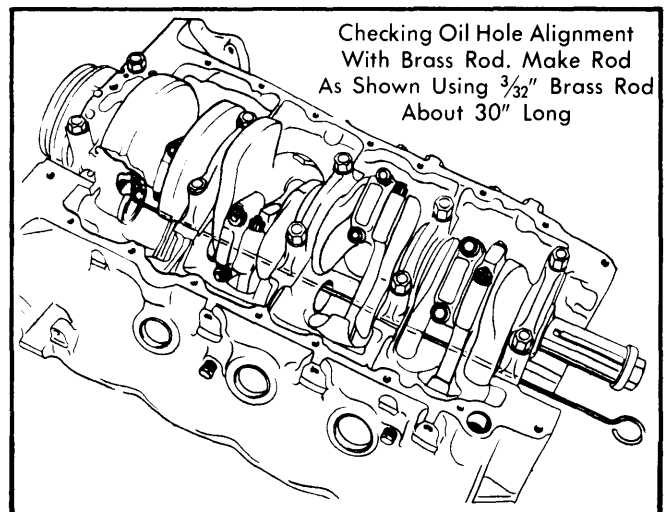

Fig. 12 Checking Oil Holes
2) Align oil hole in bearings with center of oil slot in each bore. Mark bottom of bearing to act as a guide. Use a piece of $\frac{3}{32}$ " brass rod with a 90° bend at one end to check oil hole opening. Wire must enter hole. Fig. 12.